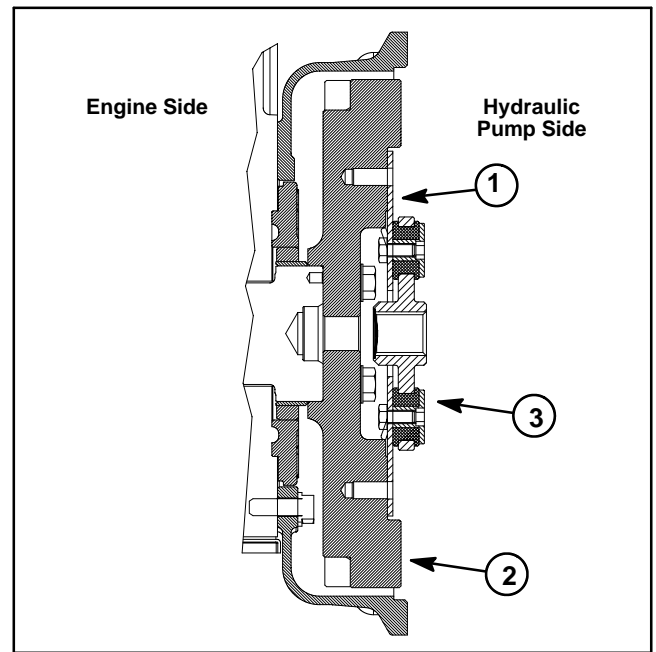

Figure 18
1. Position spring coupler to engine flywheel and align mounting holes. Make sure that coupler hub is away from engine flywheel (Fig. 18).
2. Apply Loctite #242 (or equivalent) to threads of cap screws (item 3). Secure coupler to flywheel with six (6) cap screws and washers. Torque cap screws in a crossing pattern from **29 to 33 ft-lb (40 to 44 N-m)**.
3. Position flywheel plate to engine and engine mounts. Apply Loctite #242 (or equivalent) to threads of cap screws (items 5 and 7). Secure flywheel plate and mounts with cap screws (items 5 and 7) and washers using a crossing pattern tightening procedure. Torque cap screws in a crossing pattern from **28 to 32 ft-lb (38 to 43 N-m)**.